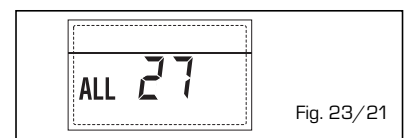

Fig. 23/21
**- ANOMALIA COERENZA INGRESSO (S3) SOLO PER IMPIANTO 7 "ALL 28" (fig. 23/22)**